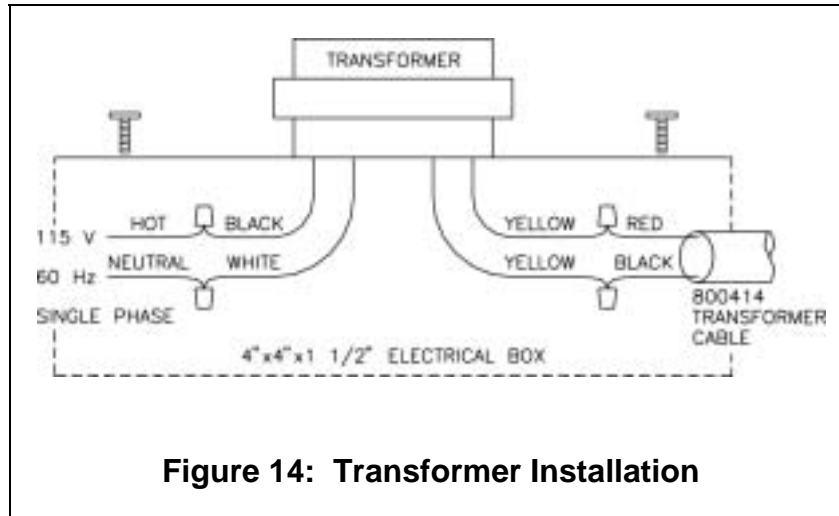

Figure 14: Transformer Installation
- 3) Connect 115 VAC line voltage HOT wire to BLACK wire on transformer and NEUTRAL wire to WHITE wire on transformer (Figure 14).